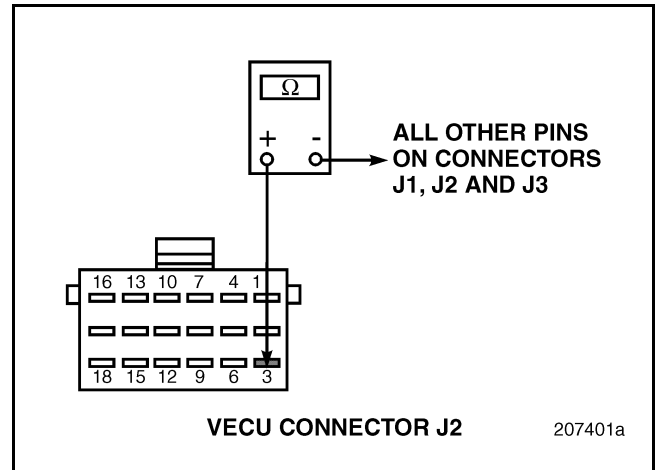

Figure 244
4. Check for continuity between Vehicle Electronic Control Unit (VECU) connector J2 pin 3 and all other pins in connectors J1, J2, and J3 (see Figure 244).